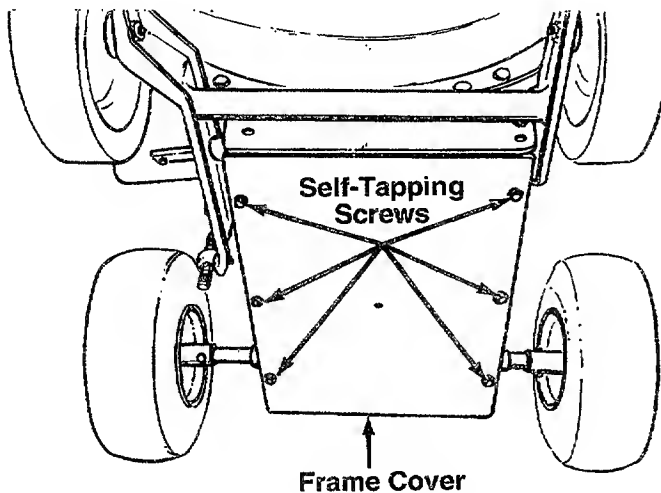

FIGURE 22.
- Remove the frame cover by removing eight self-tapping screws from underneath the chipper-vacuum. See figure 22.